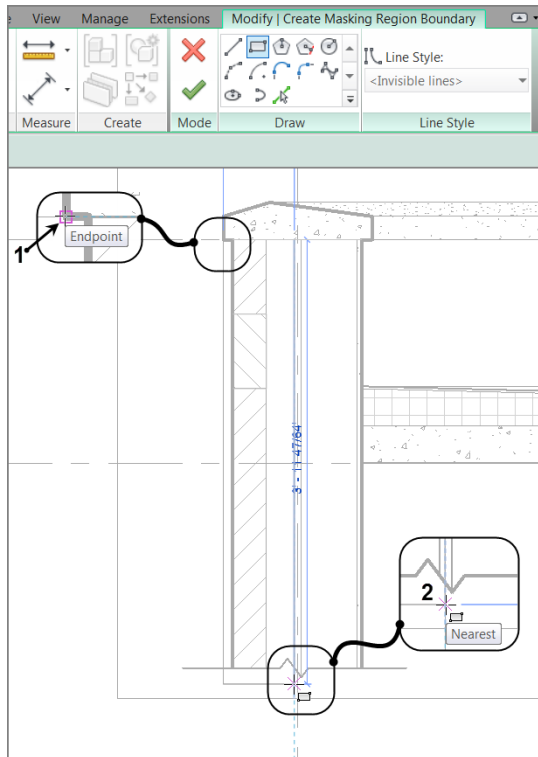

FIGURE 12.7: Click the Rectangle button on the Draw panel, and place a masking region as shown.
3. The Line Style panel offers some choices in the subcategory. Choose <Invisible Lines>, as shown in Figure 12.7.
5. Draw a rectangle at the approximate points shown in Figure 12.7.